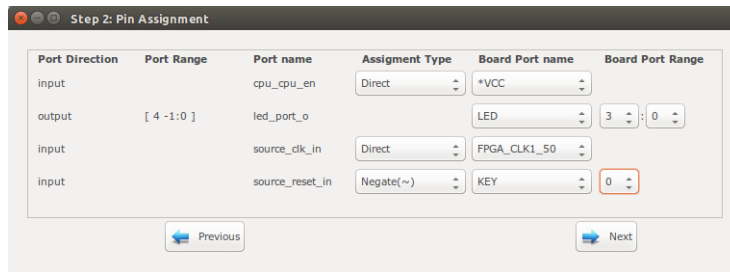

Figure 5.26: SoC pin assignment.
5. Assign your SoC pins to your FPGA boards defined pins as shown in Figure 5.26.